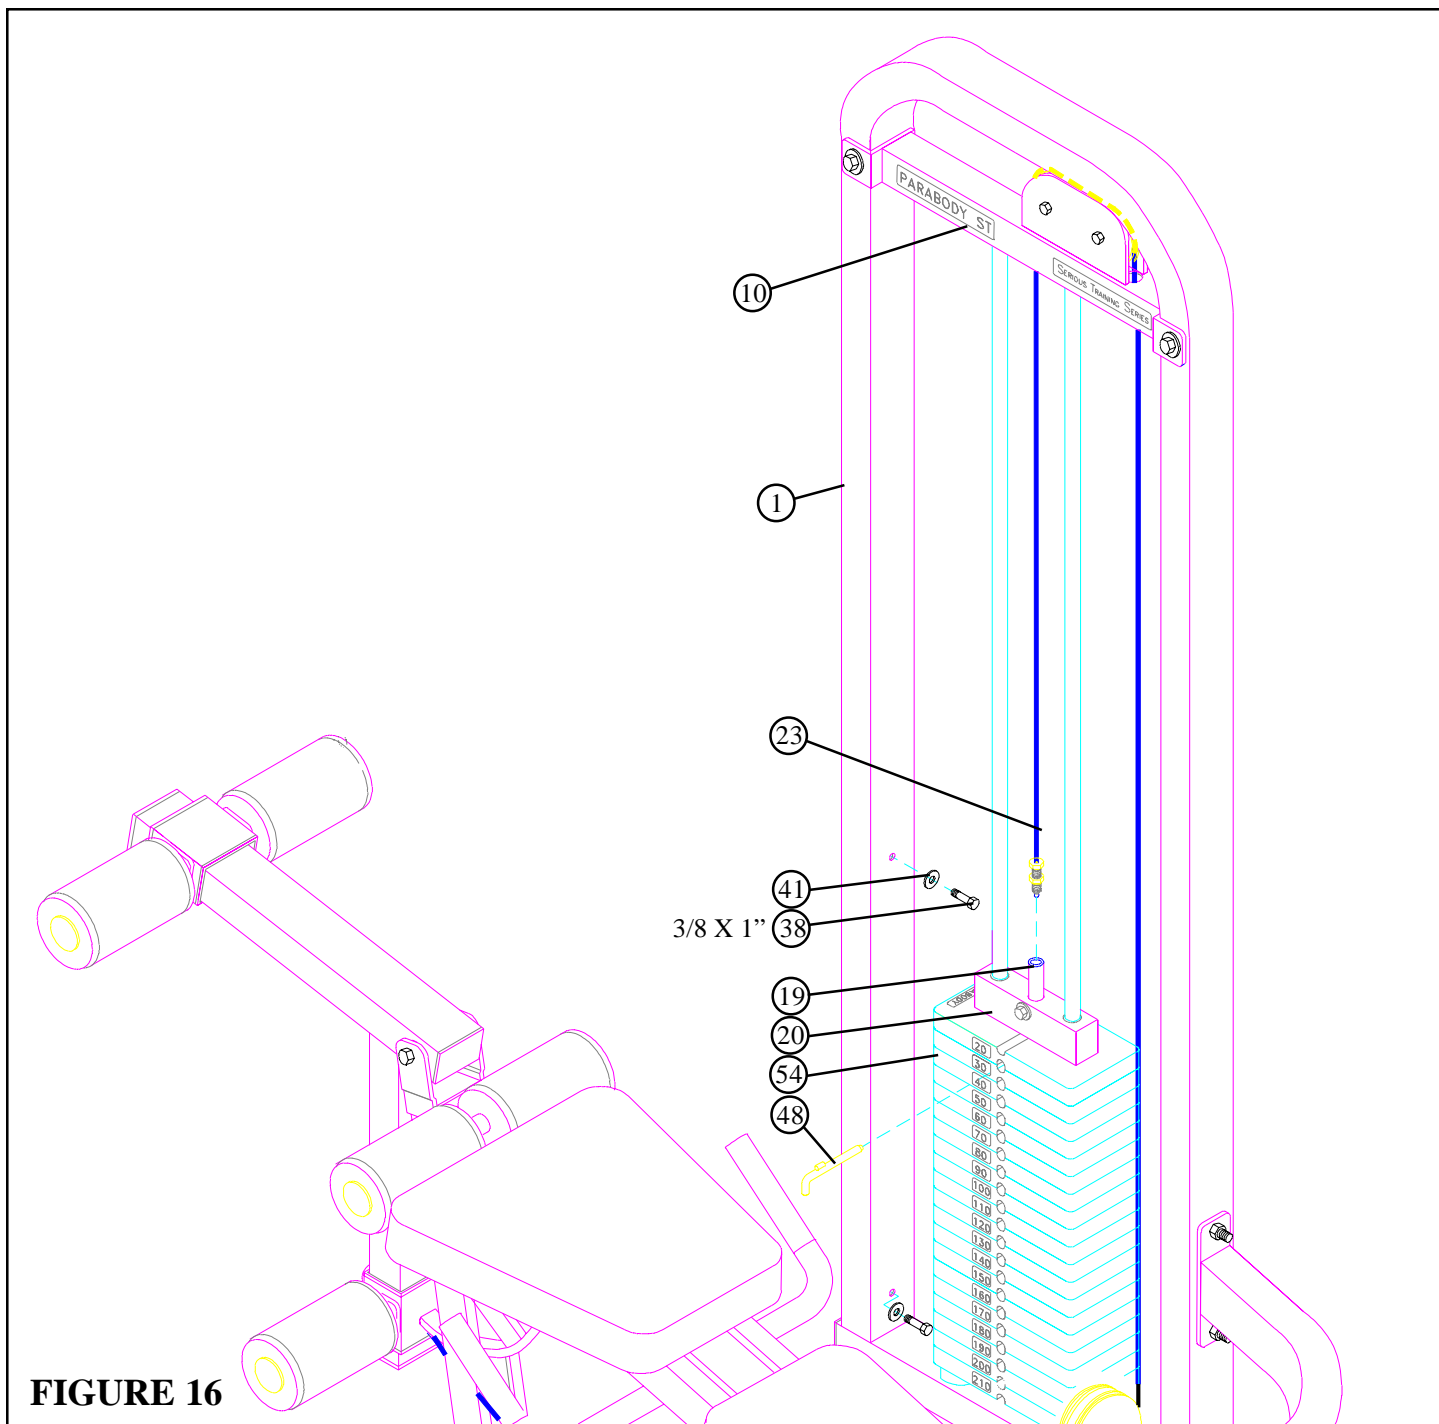

FIGURE 16
- Loop the threaded end of the CABLE (23) through the holes and around the pulleys in the TOWER BRACE (10) as shown in FIGURE 16.
- Screw the threaded end of the CABLE (23) approximately 3/4" into the end of the WEIGHT STACK SHAFT (19) and tighten jam nut securely. See FIGURE 16.
- If the HEAD PLATE (20) does not sit on top of the first WEIGHT PLATE (54), push the head plate down, insert the SELECTOR PIN (48) and perform several repetitions on the machine. This will relax the cable system and prevent the HEAD PLATE (20) from lifting up.
- If after completing the previous step the HEAD PLATE (20) still does not sit on top of the first WEIGHT PLATE (54) or if there is excess slack in the cable system, adjust the threaded end of the CABLE accordingly and retighten the jam nut.
- Thread two 3/8 X 1" BOLTS (38) and two 3/8" WASHERS (41) one-quarter of the way in to the threaded holes on the TOWER (1) as shown in FIGURE 16.